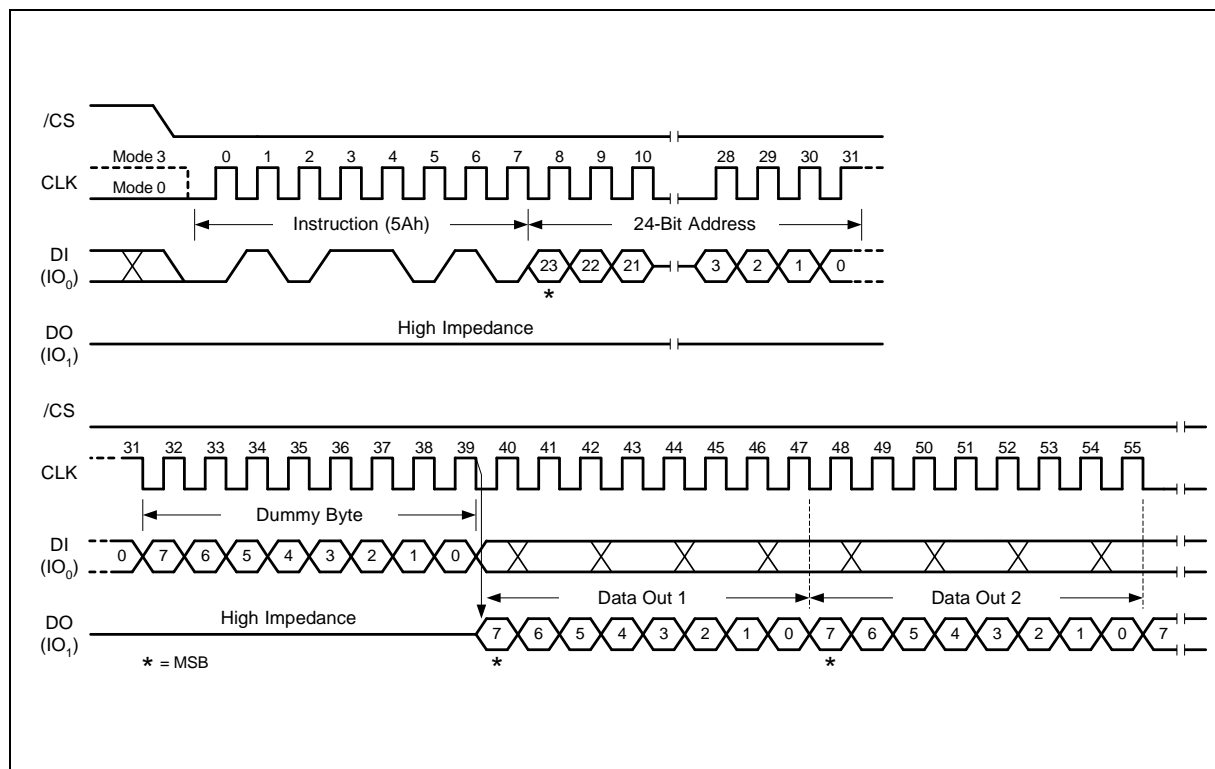

Figure 34. Read SFDP Register Instruction Sequence Diagram
The Chip Erase instruction sets all memory within the device to the erased state of all 1s (FFh). A Write Enable instruction must be executed before the device will accept the Chip Erase Instruction (Status Register bit WEL must equal 1). The instruction is initiated by driving the /CS pin low and shifting the instruction code "C7h" or "60h". The Chip Erase instruction sequence is shown in Figure 34.
The Read SFDP instruction is initiated by driving the /CS pin low and shifting the instruction code “5Ah” followed by a 24-bit address (A23-A0)(1) into the DI pin. Eight “dummy” clocks are also required before the SFDP register contents are shifted out on the falling edge of the 40th CLK with most significant bit (MSB) first as shown in Figure 34. For SFDP register values and descriptions, please refer to the Winbond Application Note for SFDP Definition Table.